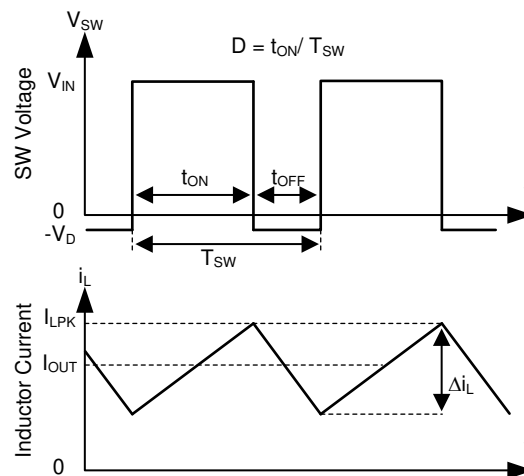

图 7-1. SW Node and Inductor Current Waveforms in Continuous Conduction Mode (CCM)
The following operating description of the LMR23615 refers to # 7.2 and to the waveforms in 图 7-1. The LMR23615 device is a step-down, synchronous buck regulator with integrated high-side (HS) and low-side (LS) switches (synchronous rectifier). The LMR23615 supplies a regulated output voltage by turning on the HS and LS NMOS switches with controlled duty cycle. During high-side switch ON-time, the SW pin voltage swings up to approximately V_{IN} , and the inductor current i_L increase with linear slope $(V_{IN} - V_{OUT}) / L$. When the HS switch is turned off by the control logic, the LS switch is turned on after an anti-shoot-through dead time. Inductor current discharges through the LS switch with a slope of $-V_{OUT} / L$. The control parameter of a buck converter is defined as duty cycle $D = t_{ON} / T_{SW}$, where t_{ON} is the high-side switch ON time and T_{SW} is the switching period. The regulator control loop maintains a constant output voltage by adjusting the duty cycle D . In an ideal buck converter, where losses are ignored, D is proportional to the output voltage and inversely proportional to the input voltage: $D = V_{OUT} / V_{IN}$.